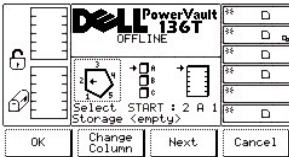

Figure 38. Command > Move > Scan Barcode Dialog
When Scan Barcode is selected, the Scan Barcode Dialog is displayed. See Figure 38. This option performs an inventory on a range of slots.
- 1 If the button beneath the **Next** softkey is selected, the current source parameter changes from slot to column as shown in the Scan Barcode Dialog. Refer back to Figure 38.